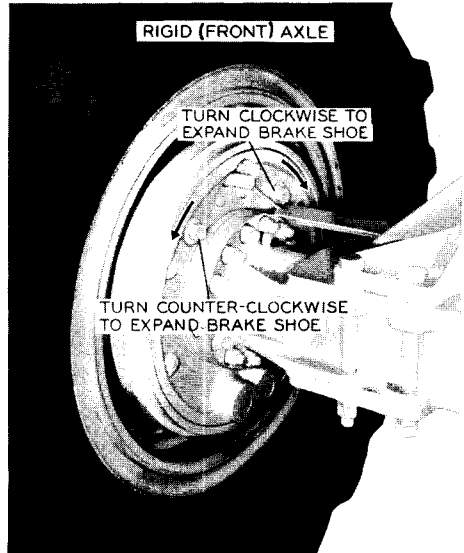

Figure 102
2. Expand brake shoes on each front wheel, as shown in Figure 102, until a heavy drag is felt when rotating the wheels.